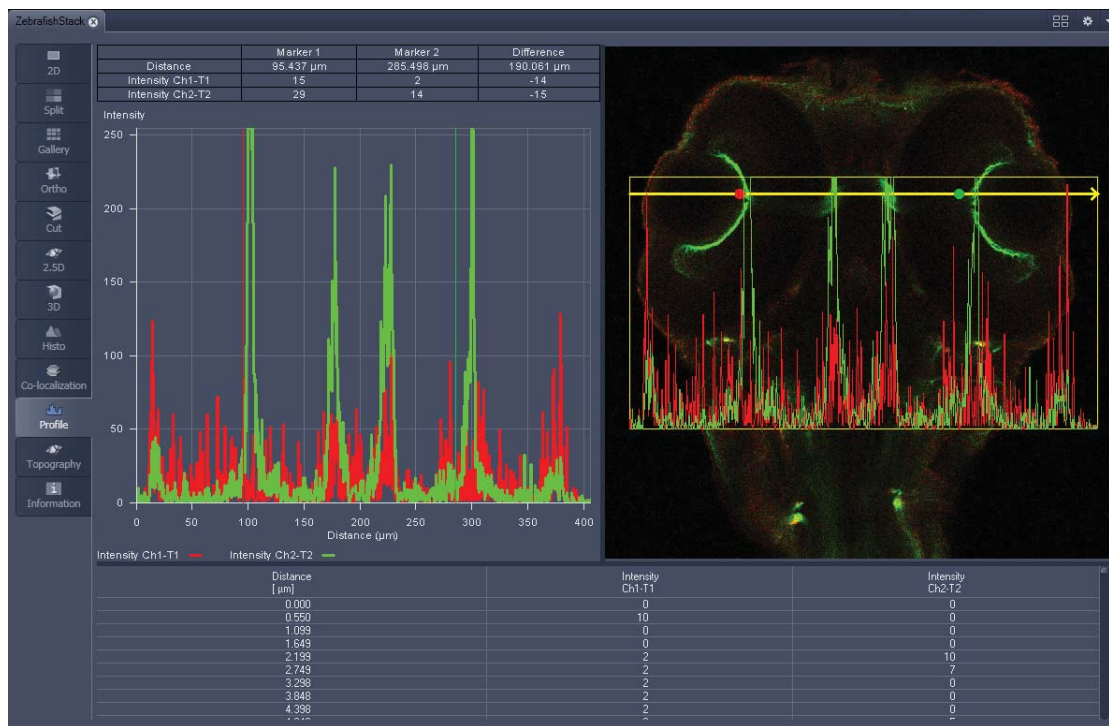

Fig. 4-211 Image Display - Profile View, Profile displayed in Image
- Tick the **Profile in Image Display** block to see an intensity graph superimposed on the image. (see Fig. 4-211).